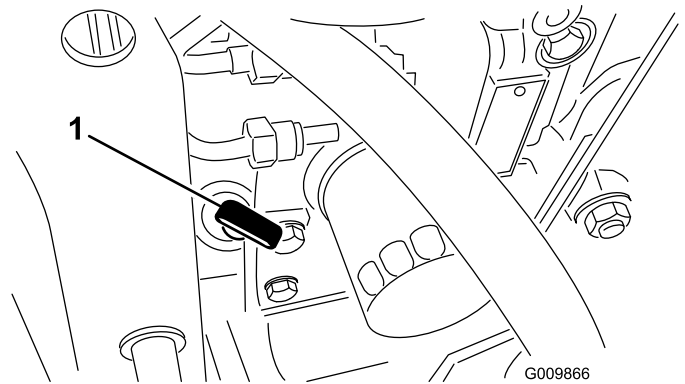

Figure 23
2. Remove the dipstick, wipe it clean, and install it, ensuring that it is fully seated (Figure 23).